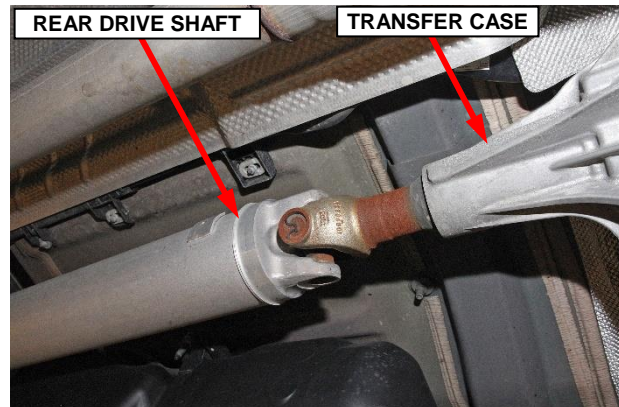

Figure 13 – Rear Drive Shaft
18. Slide the rear drive shaft off the transfer case output shaft spline then remove and **SAVE** the rear drive shaft (Figure 13).
14. Slide the rear drive shaft onto the transfer case output shaft spline (Figure 13).